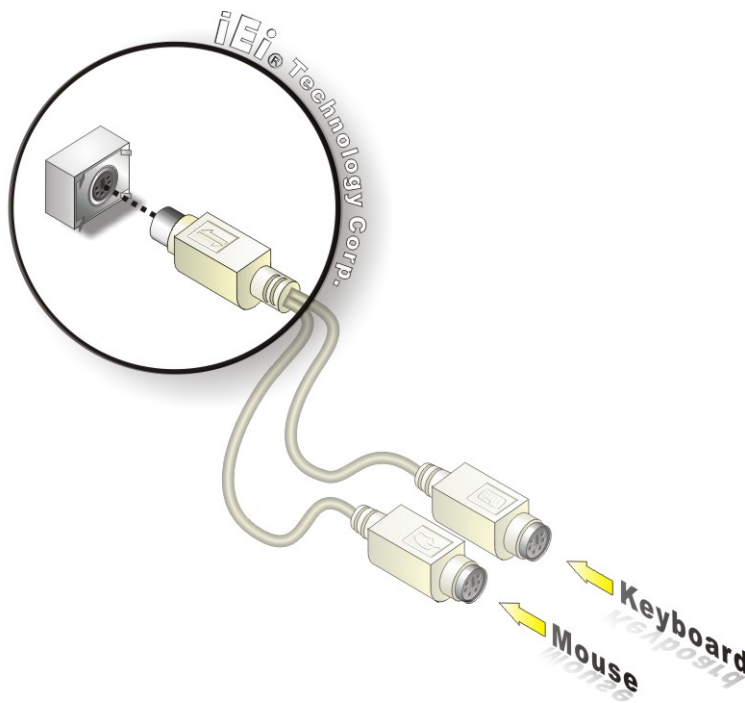

Figure 5-15: PS/2 Keyboard/Mouse Connector
Step 2: Insert the keyboard/mouse connector. Insert the PS/2 connector on the end of the PS/2 y-cable into the external PS/2 connector. See Figure 5-15.